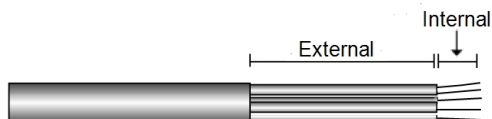

Figure 13: Insulation stripping – AC
3. Strip 8mm of the grounding wire insulation (see Figure 13).